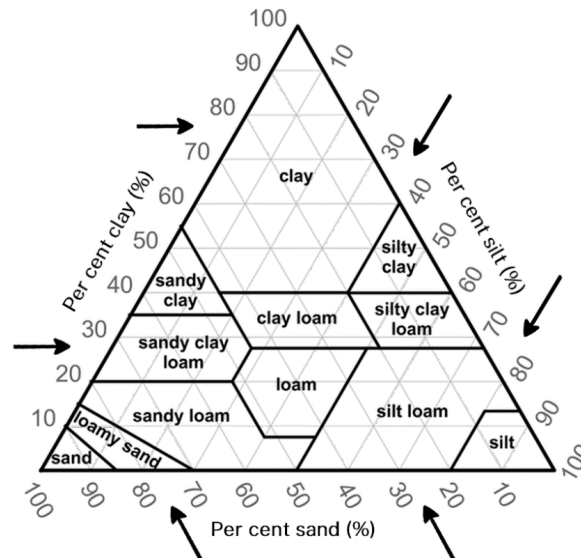

Figure 7 Australian soil texture triangle
Soil texture can be accurately measured with a soil test laboratory analysis which measures the total particle sizes present in the mineral fraction of the soil sample. The total proportions of sand, silt and clay are shown in Figure 7 Australian standard texture triangle to determine a soil texture grade.
11. Use the texture triangle (Figure 7) to identify the texture class of a soil with:
- Access to texture triangle (Figure 7)